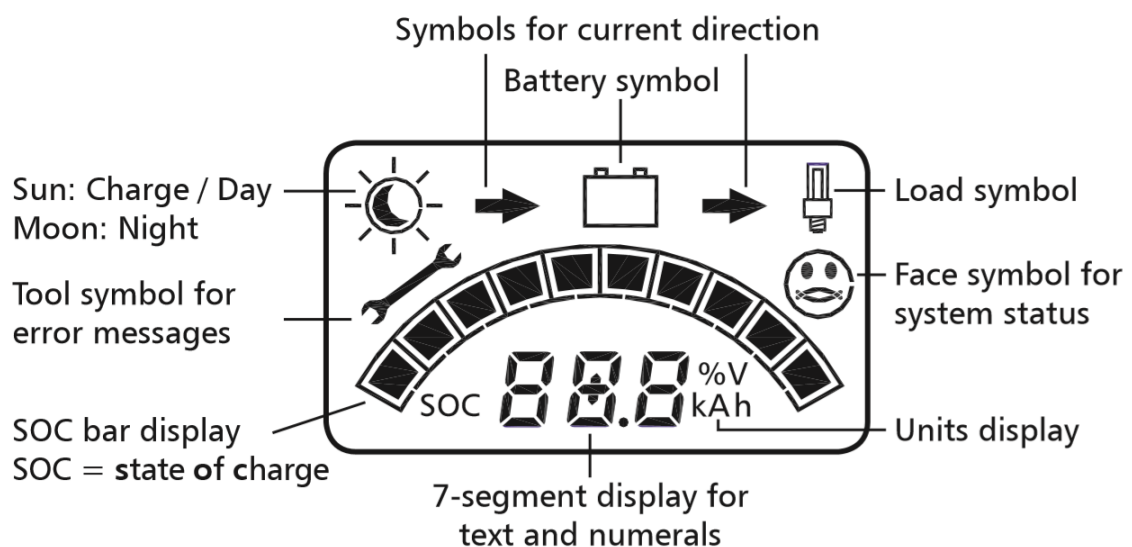

Figure 107: Display Window of a Steca Charge Controller (Source: manual Steca PR 3030)
4.2.1 Test DC Voltage and Polarity of battery (1)
- Observe that the Charge Controller switch on correctly and indicates the battery symbol or indicator (Figure 107).